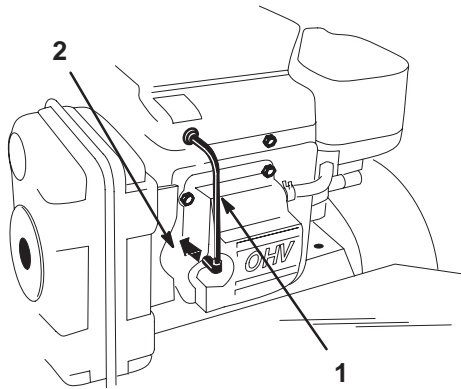

Figure 24
2. Pull the wire(s) off the spark plug(s) (Fig. 24). Now clean around the spark plug(s) to prevent dirt from falling into the engine and potentially causing damage.
3. Push the wire(s) onto the spark plug(s) (Fig. 24).